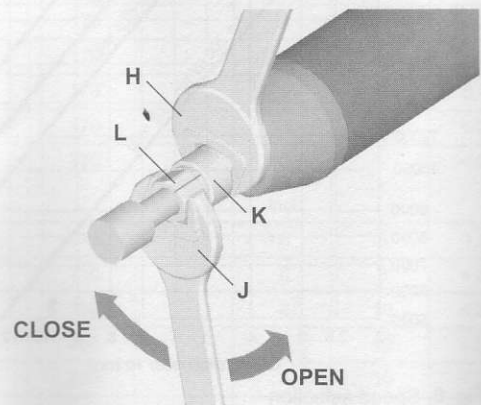

Fig. 5: Tool change
Using the supplied spanners (H and J) hold the spindle (K) and open or close the chuck (L) (right-hand thread) (see Fig. 5).